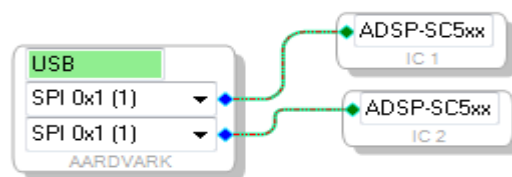

Figure 24: Aardvark to ADSP-SC5xx connection
10. Connect the first blue (output) pin of the 'Aardvark' to the green (input) pin of the 'IC 1' block. Connect the second blue (output) pin of the 'Aardvark' to the green (input) pin of the 'IC 2' block as shown in Figure 24.
11. A drop-down menu is enabled adjacent to the connected pin of 'Aardvark'. Select 'SPI 0x1 (1)' from the drop-down menu for both the ICs.